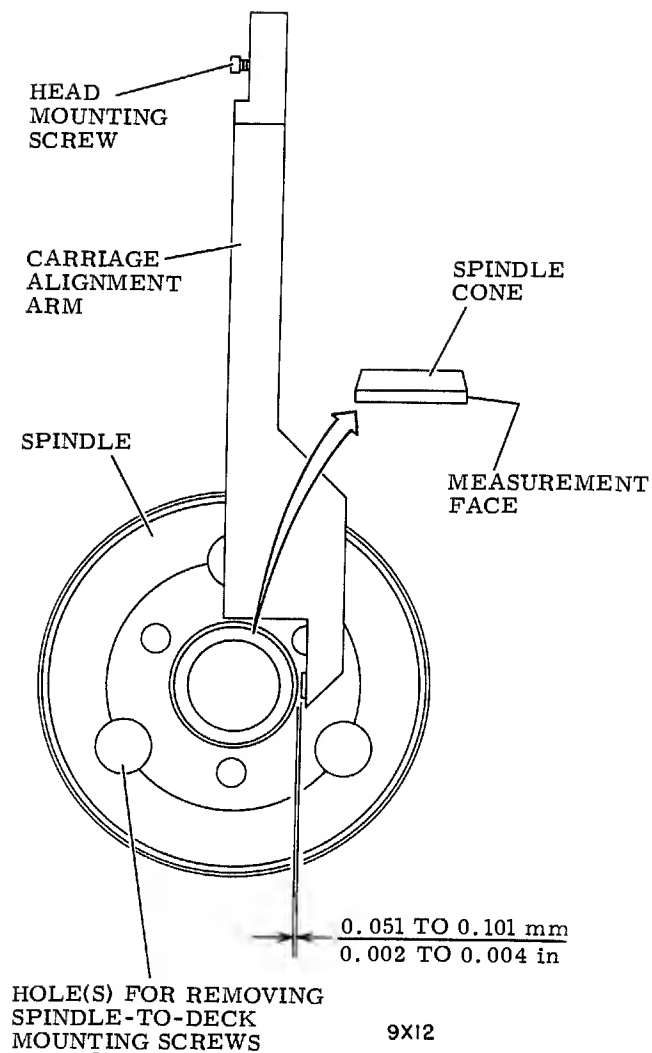

Figure 2-27. Spindle/Carriage Alignment
4. Extend carriage until alignment arm is aligned as shown in figure 2-27.
5. Using non-metallic feeler gauge, check that distance between alignment arm and spindle is as specified in figure 2-27. If adjustment is required, go to step 6. If specification is met go to step 12.
8. Extend carriage until alignment arm is positioned as shown in figure 2-27.
9. Using a plastic faced hammer, gently tap spindle until dimension between alignment arm and spindle is as specified in figure 2-27.